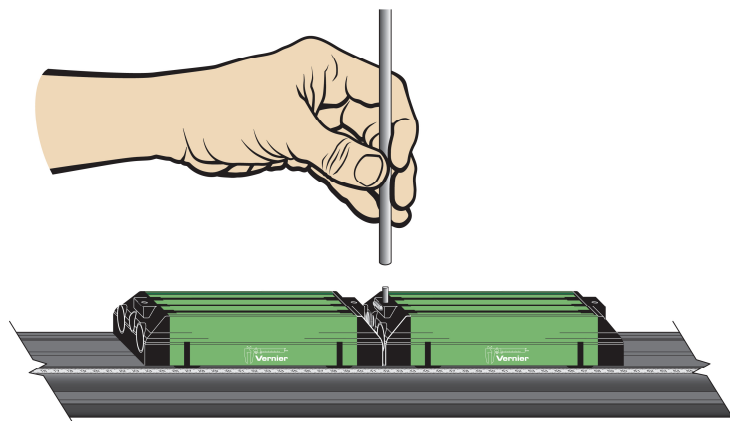

Figure 2
2. Begin data collection, then give a quick tap to the release pin with something hard, such as the support rod for a force sensor, as shown in Figure 2. Catch the carts before they run off the track.